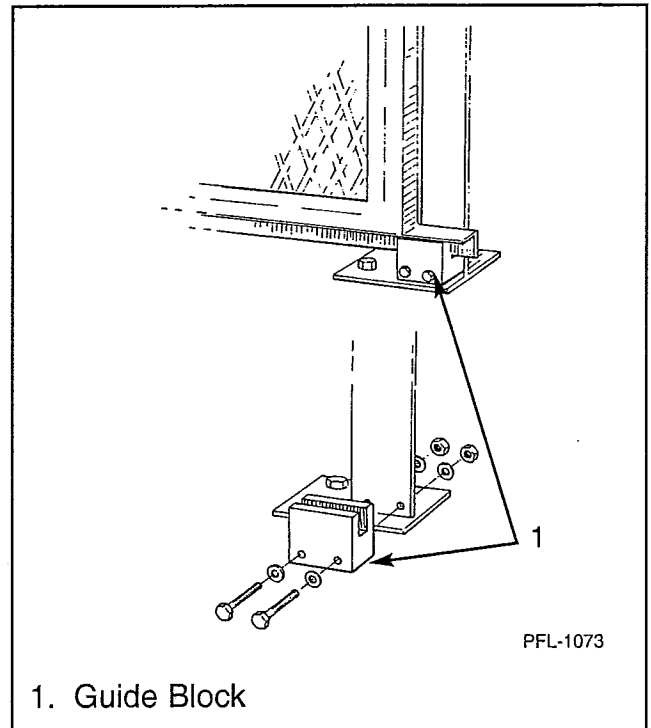

Figure 2
3. Bolt guide block to middle post. See Figure 2.